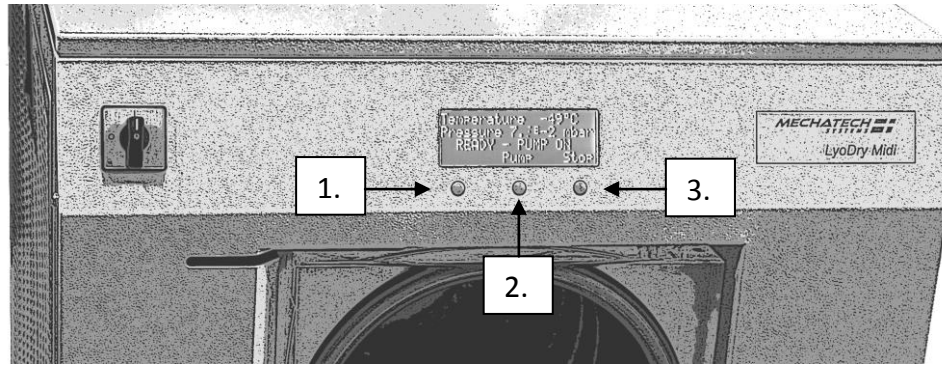

Figure 4 – LyoDry Midi Control Panel.
1. Switch the pump on by pressing the 'Pump' button (item 2, Figure 4) 'READY – PUMP ON' is displayed.
7. When the chamber is completely drained, switch the refrigeration off by pressing the 'Stop' button (item 3, Figure 4).